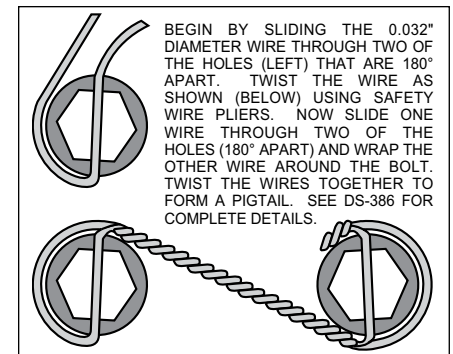

Figure 3. Safety Wire Diagram
- With the larger I.D. side of the rotor (6) facing away from the hat (7), bolt rotor (6) to the hat (7) through the backside of the rotor using washers (8) and bolts (9). Apply red *Loctite*® 271 to the bolt threads and torque to 155 **in-lb** using a criss-cross pattern. For an added measure of security, the bolts may be safety wired using standard 0.032 inch diameter stainless steel safety wire as shown in Figure 3. Please refer to Wilwood's data sheet DS-386 (available at [www.wilwood.com/Pdf/DataSheets/ds386.pdf](http://www.wilwood.com/Pdf/DataSheets/ds386.pdf)) for complete safety wire installation instructions.
- Install washer (14) over each pre-installed stud (13) on the radial mount bracket (1). Slide the caliper (10) in place over the studs and rotor, then install the washer (12) and lock nut (11) to hold the caliper in place. The caliper bleed screws should be pointing up. Snug the lock nuts (11) and check that the rotor (6) is centered in the caliper (10). Add or subtract .029" shims (3) as necessary between the caliper mounting bracket (1) and the spindle to center the caliper (10).
- Remove the caliper center bridge pad retainer bolt, nut, and tube from the caliper. Slide the brake pads (15) into place. They should install easily without interference. Check that the outside radius of the brake pad is aligned with the outside diameter radius of the rotor face. Add or subtract shims (14) between the caliper (10) and mount bracket (1) to gain the proper alignment. Reinstall the center bridge pad retainer tube, bolt, and lock nut. The lock nut should be snug without play in the bolt or tube. Be cautious not to over tighten.
- Once all clearances have been checked, remove the wheel, caliper, hat, and rotor from the spindle and hub. Secure the caliper mounting bracket (1) to the spindle with bolt (2), washers (3), lock washer (4) and nut (5) as done previously using red *Loctite*® 271. Torque bolt (2) to 75 ft-lb. Reinstall the hat and rotor assembly and again using two lug nuts (finger tighten) to hold it in place. Reinstall the caliper and torque the caliper nuts (11) to 30 ft-lb.